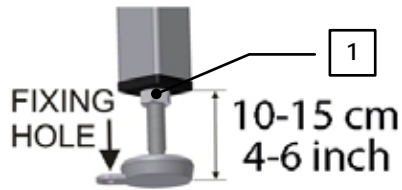

FIGURE 3.2: ADJUSTABLE FOOT
Adjust the feet of the machine reserving a height of 10-15cm (4 – 6 inch) from the floor as shown in Figure 3.2
Level the machine by adjusting the 4 feet of the machine. Use the locking nut (refer to pos.1 in Figure 3.2) to secure the height of the foot.
Only after final approval of the position of the VISYS Digital Laser Sorter by the installation engineer, the feet must be fixed to the floor by using the provided mounting hole (refer to Figure 3.2) on each foot.
Only after final approval of the position of infeed shaker by the installation engineer, the feet must be fixed to the floor by using the provided mounting hole (refer to Figure 3.2) on each foot. This procedure is similar to the fixation of the base frame (refer to paragraph 3.3 "Levelling the machine").